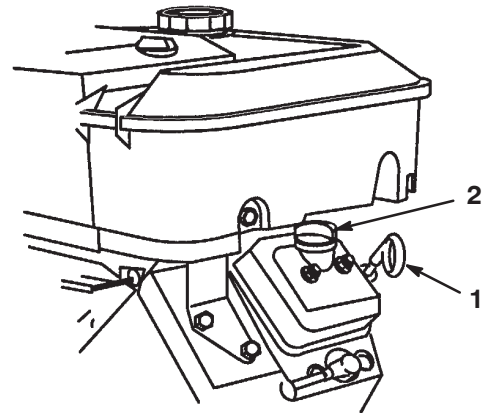

Figure 10
2. Remove the dipstick and wipe it with a clean rag (Fig. 10). Insert the dipstick into the tube and make sure it is seated fully. Remove the dipstick and check the oil level.
3. If the oil level is low, remove the filler cap from the valve cover (Fig. 10) and pour oil into the opening until the oil level is up to the Full mark on the dipstick; refer to Engine Oil, page 26, for the proper oil type and viscosity. Add the oil slowly and check the level often during this process. **Do not overfill.**